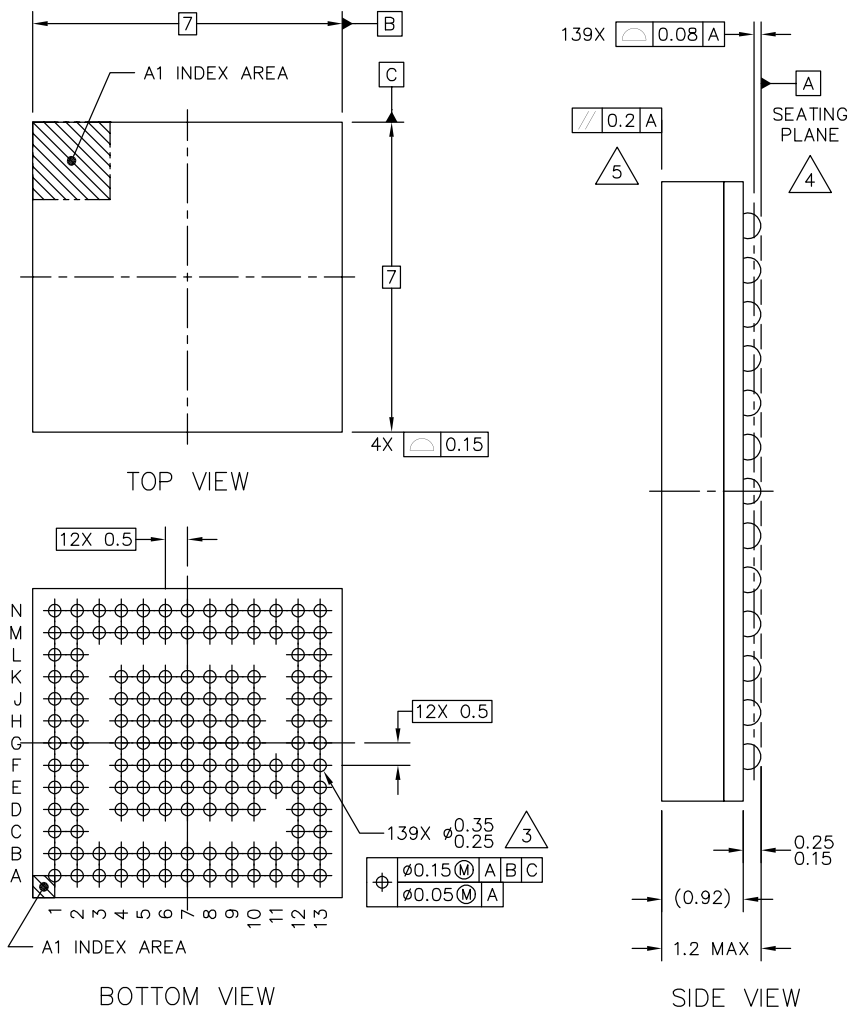

**Figure 35. MC13892 Typical Application**
**Figure 35** contains a typical application of the MC13892. For convenience, components for use with the MC13892 are cited within this document. Freescale does not assume liability, endorse, or warrant components from external manufacturers that are referenced in circuit drawings or tables. While Freescale offers component recommendations in this configuration, it is the customer's responsibility to validate their application.